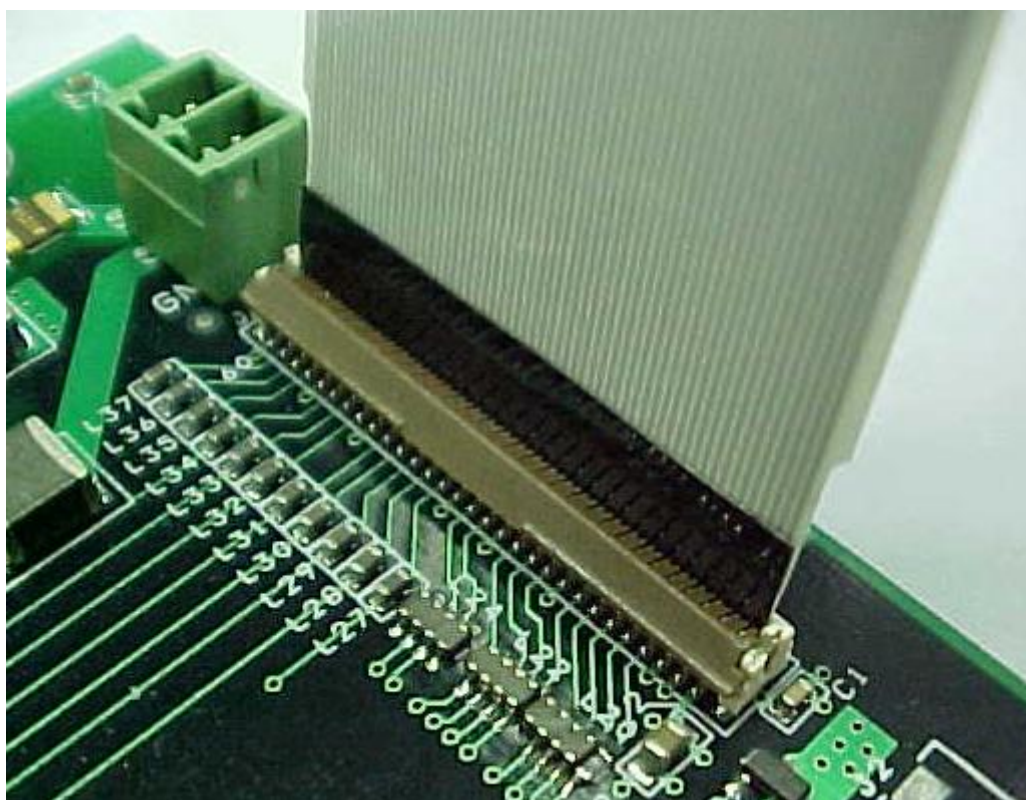

Figure 6.3 **Cam lock in the closed (down) position**
3. Rotate the cam to the closed (down) position to lock in place (see Figure 6.3).